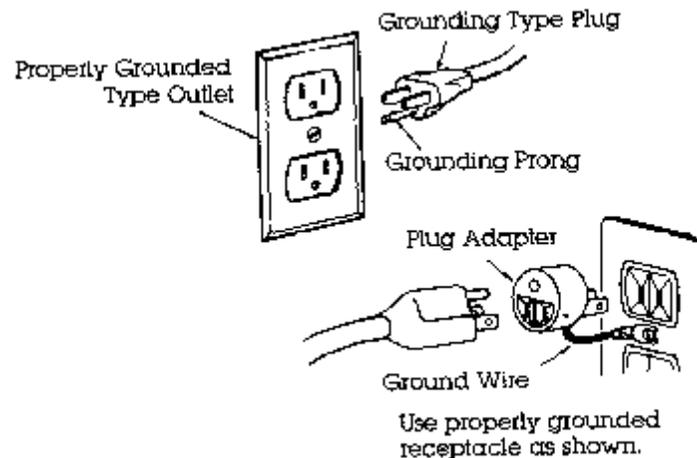

FIGURE 1-Always use a properly grounded receptacle.
- 2. GROUND ALL TOOLS**-If tool is equipped with a three-prong plug, it should be plugged into a three-hole receptacle. If an adapter is used to accommodate a two-prong receptacle, the adapter wire must be attached to a KNOWN GROUND. Never remove third the prong. (See Figure 1.)